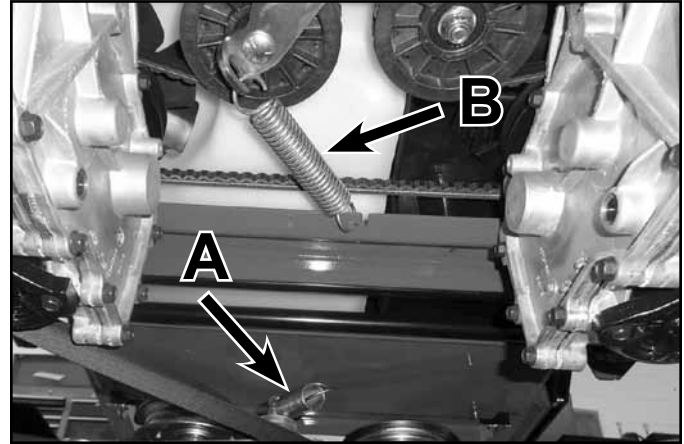

Fig. 065
2. Remove PTO belt tensioner spring (A) from the deck to relieve PTO belt tension (Fig. 065). See "PTO Belt Replacement - 48, 54 & 60 Inc Deck" on page 6-5.
6. Remove the drive belt tensioner spring (B) (Fig. 065).